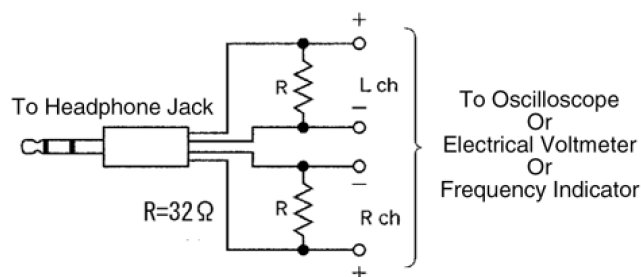

Fig. 8
- Headphone jack output jig (Fig. 8)
3. Connect the headphone jack output jig (Fig. 8) to headphone jack.